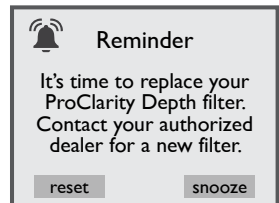

Figure 12.6j
4. When the timer expires, a message will appear on the control panel display, Figure 12.6j. Follow the previous instructions to reset the timer. The filter must be replaced. Refer to Section 13.1, page 61, for filter location. If you tap “snooze” the message will clear but the error icon ▲ will display and the reminder screen will reappear in 10 days.